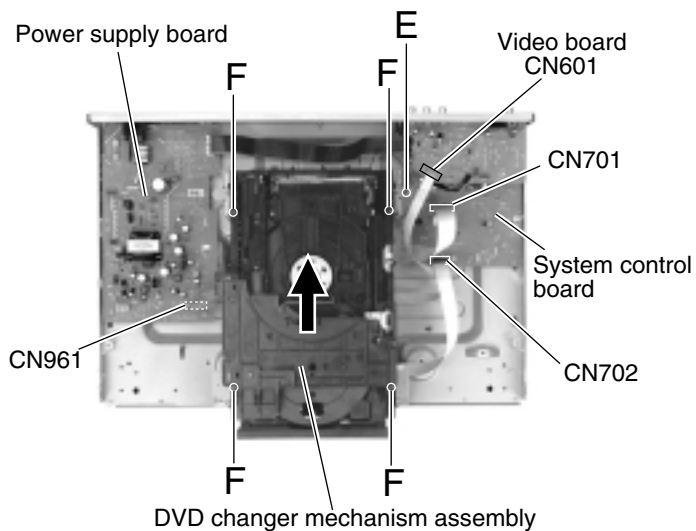

Fig.7
■ **Removing the DVD changer mechanism assembly (See Fig.7)**